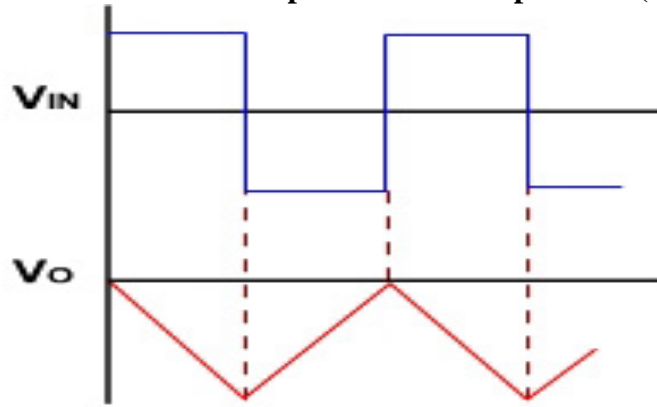

Fig. No. 3
c) Suggest the OP-AMP based circuit to perform below operation (Refer Fig. No. 3)